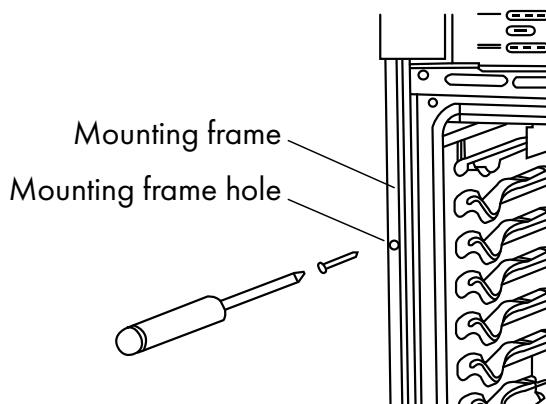

Figure 1
3. Insert the #8-14 x 1" screws (provided) through the pilot holes to securely fasten the oven to the cabinet (Figure 1). Do not overtighten screws.